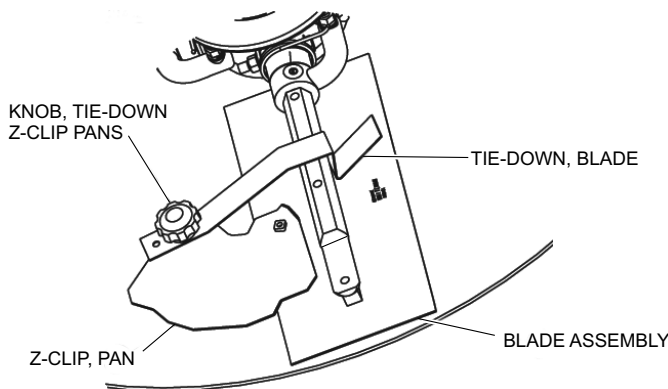

Figure 29. Z-Clip Finisher Pan Installation
3. Attach the blade tie-downs to the far side of the Z-Clip brackets with tie-down knobs as shown in Figure 29.
Refer to Figure 29 when installing pans onto finisher blades.